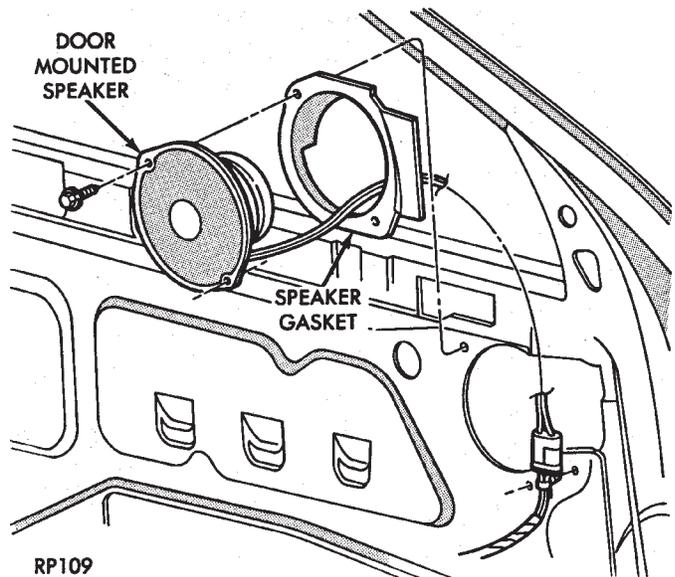

Fig. 29 Door Mounted Speaker—AP Body
- (1) Remove door trim panel.
- (2) Remove two screws holding speaker to inner door panel (Fig. 29).